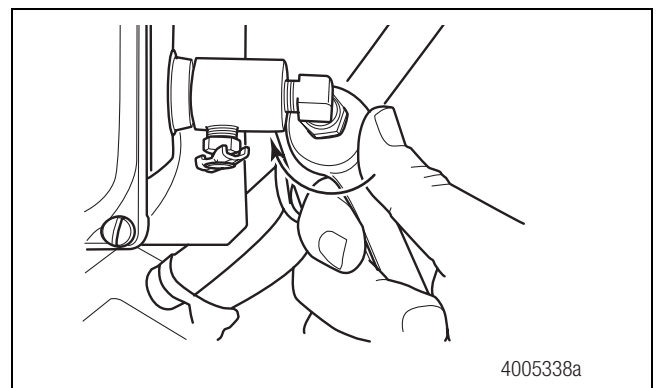

Figure 3.12
3. Remove the outlet air line from the control box. Figure 3.12.